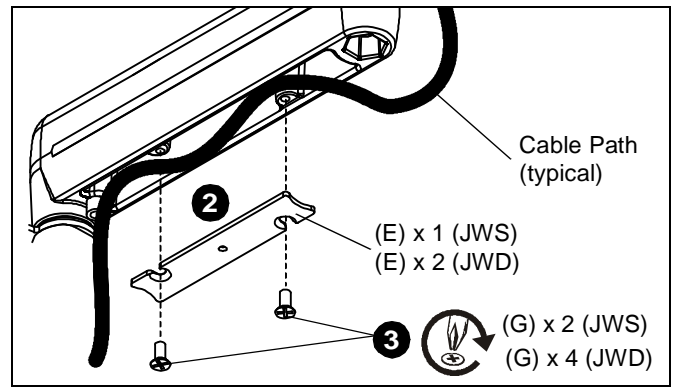

Figure 7
**CAUTION:** Ensure that adequate cable slack exists for movement of display, and that cables will not be pinched by installation of cable management cover(s) (E) or screws (G).
2. Carefully insert cables in cavity located in lower portion of mount arm (See Figure 7).
3. Install cover (E) with two 8-32 x 3/8" Phillips screws (G). (See Figure 7)